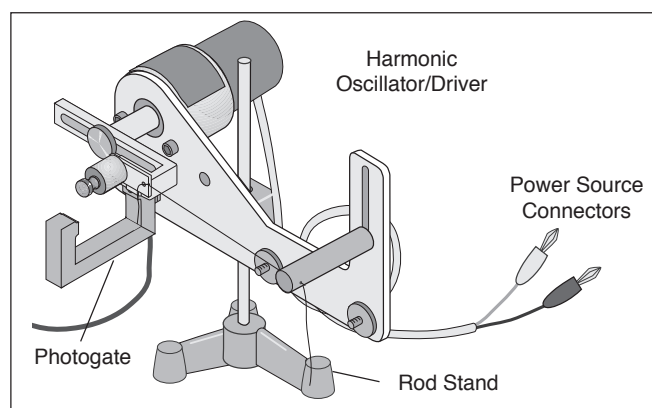

Figure 1: Oscillator/Driver Mounted on a Rod Stand
- ① **Mounting:** The Oscillator/Driver can be mounted to a dynamics track to drive dynamics carts or it can be mounted on a rod stand for driving other apparatus. See Figures 1 and 2. Tie one end of a string to the white plastic piece on the driving arm and thread the other end of the string through the hole in the guide. The level of the guide can be adjusted by about 5.5 cm to match the height of the object to be driven.
- ② Amplitude Adjustment: To vary the amplitude, loosen the thumb screw that holds the arm to the motor shaft and slide the arm to a new position. Retighten the thumb screw to hold the arm in place. The amplitude is zero when the arm is positioned such that the screw which holds the string holder is aligned over the motor shaft.
- ③ Power Supply: Plug the leads from the Oscillator/Driver into a 12 V (0-0.3 A) variable DC power supply.
- ④ Frequency Adjustment: To adjust the frequency, change the voltage of the power supply. An increase in the voltage corresponds to an increase in the frequency.
- ⑤ Measuring the Frequency: Mount a photogate onto the Oscillator/Driver using the slot located below the motor. Each period, the arm will block the photogate. See Figure 1.